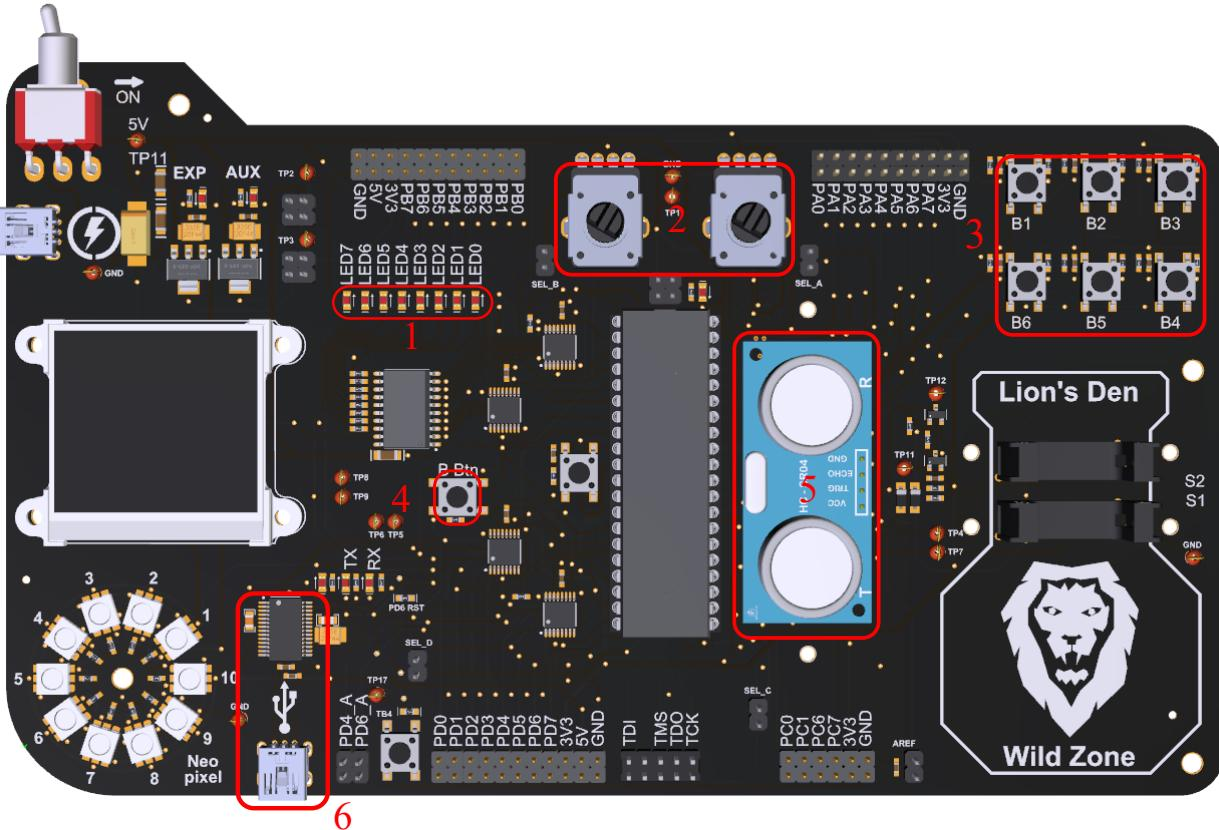
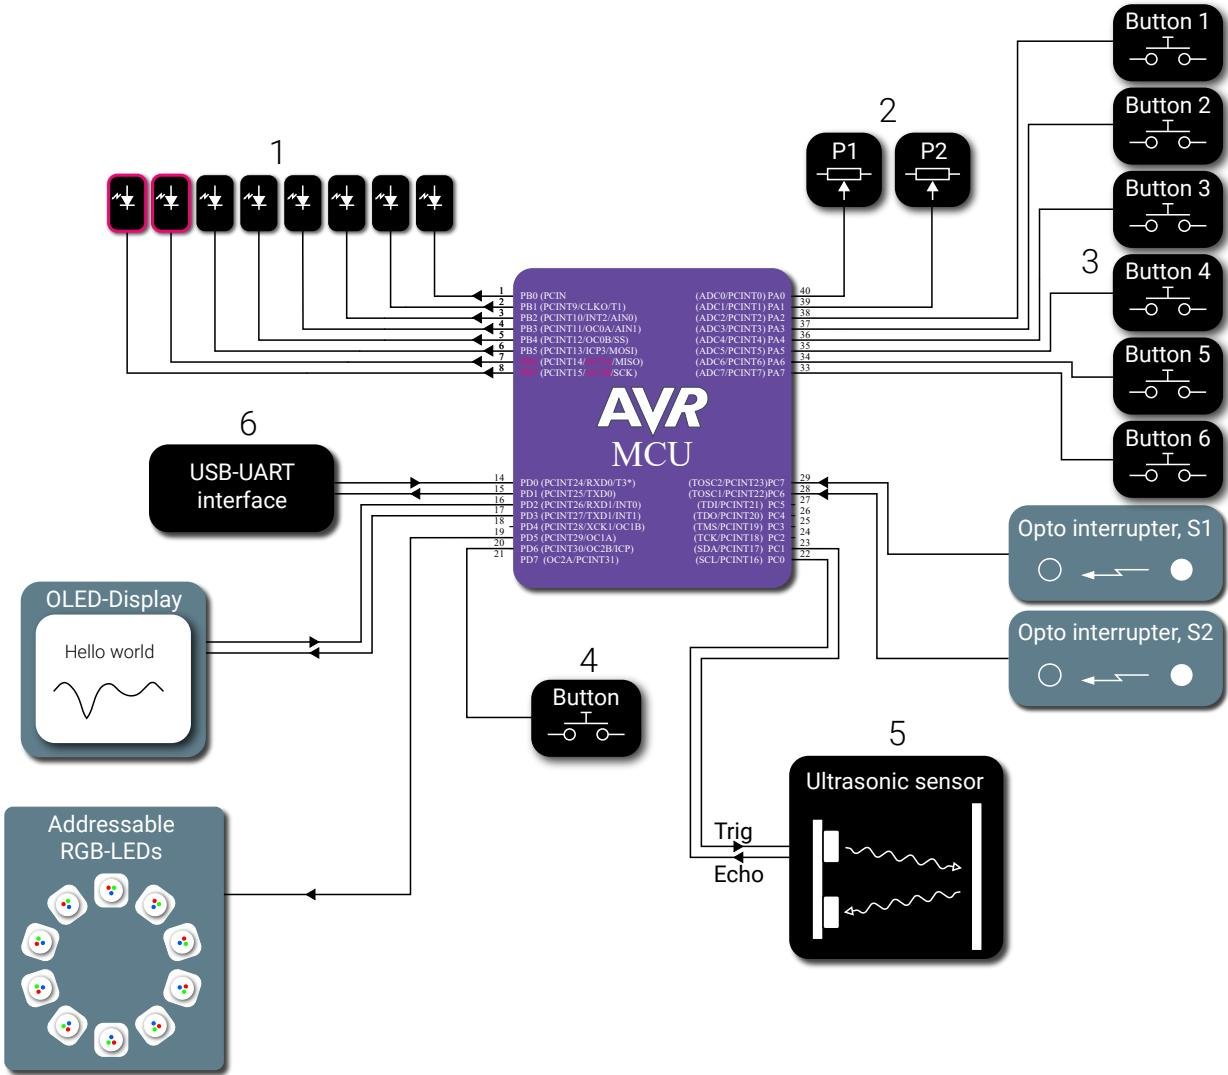

Figure 1: A picture of the circuit board with the used I/O devices marked.
Figure 2: Block schematic of the circuit board with the used I/O blocks coloured black.
During this laboratory exercise, several I/O devices will be used. The external device that will be interfaced is shown in Figure 1 and 2. In Figure 1 the I/O devices used are encapsulated in a red rectangle and labeled with a number. In Figure 2 the corresponding blocks are colored black.
Some of the I/O units need to be interfaced in a way that requires more finesse than what a simple, general-purpose I/O pin can achieve. For instance, the outputs of the potentiometers are analog signals. An I/O pin, when configured as an input, can only tell if a signal is above or below a certain threshold. For this reason, it lacks the ability to measure the actual amplitude of an analog signal. In case of the AVR microcontroller (and microcontrollers in general), each I/O pin can be connected (inside the microcontroller) to a couple of different sources. The name of the alternative sources can be seen in Figure 2. It is the text between the parentheses. When it comes to Port A, all of the I/O pins can be connected to the built-in analog-to-digital converter. See the name of the alternative source in Figure 2, ADC0, ADC1 and ADC2 and so on.
Use the schematic in Figure 2 to see where the button is connected.
- Now we will spice things up a bit. Change the currently used button to the spare button connected to PD7 (Port D). It is labeled with `B.Btn` and can be found on the left hand side of the MCU, see Figure 1. This button is of the same kind as button B1-B6. And remember to configure PD7 as an input only. There are other components connected to port D.